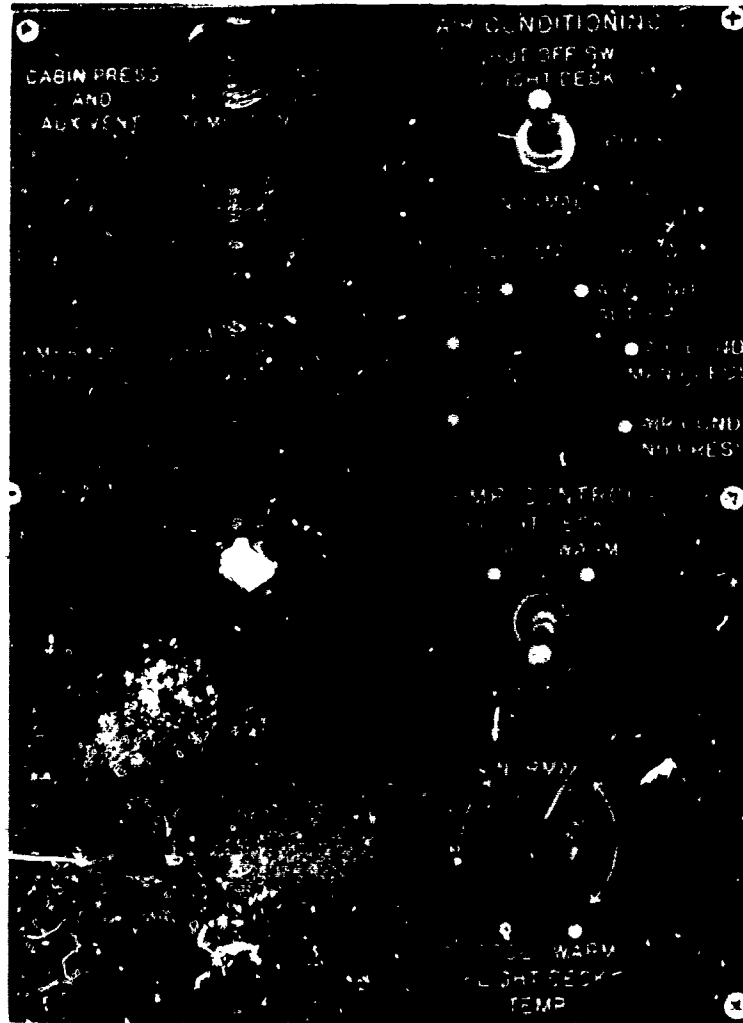

Figure 2.
b. Using the trainer and the illustration in figure 2, locate each of the numbered items. Write the name of each of these numbered items in the blank spaces below
- (1) _____
- (2) _____
- (3) _____